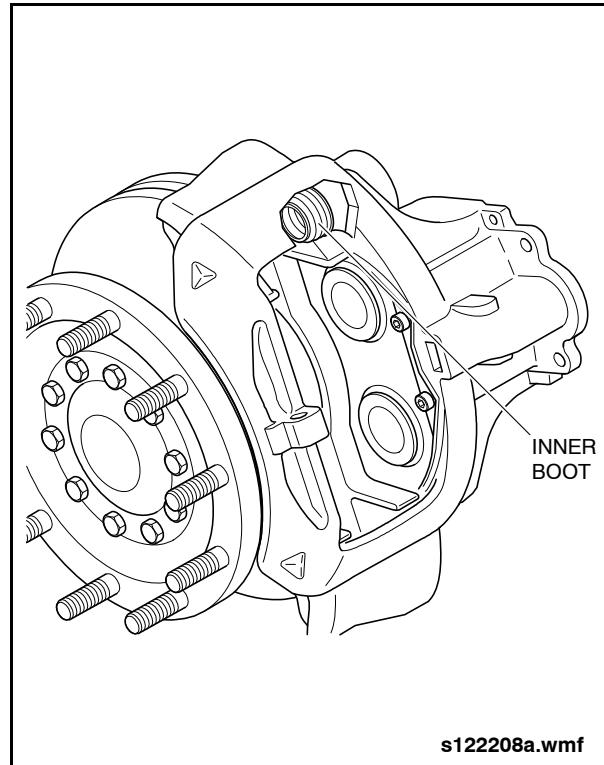

Fig. 2-117: Upper Guide Pin Inner Boot Inspection
2. Push the caliper fully inward to expose the inner rubber boot on the upper guide pin. See "Fig. 2-117: Upper Guide Pin Inner Boot Inspection" on page 104.